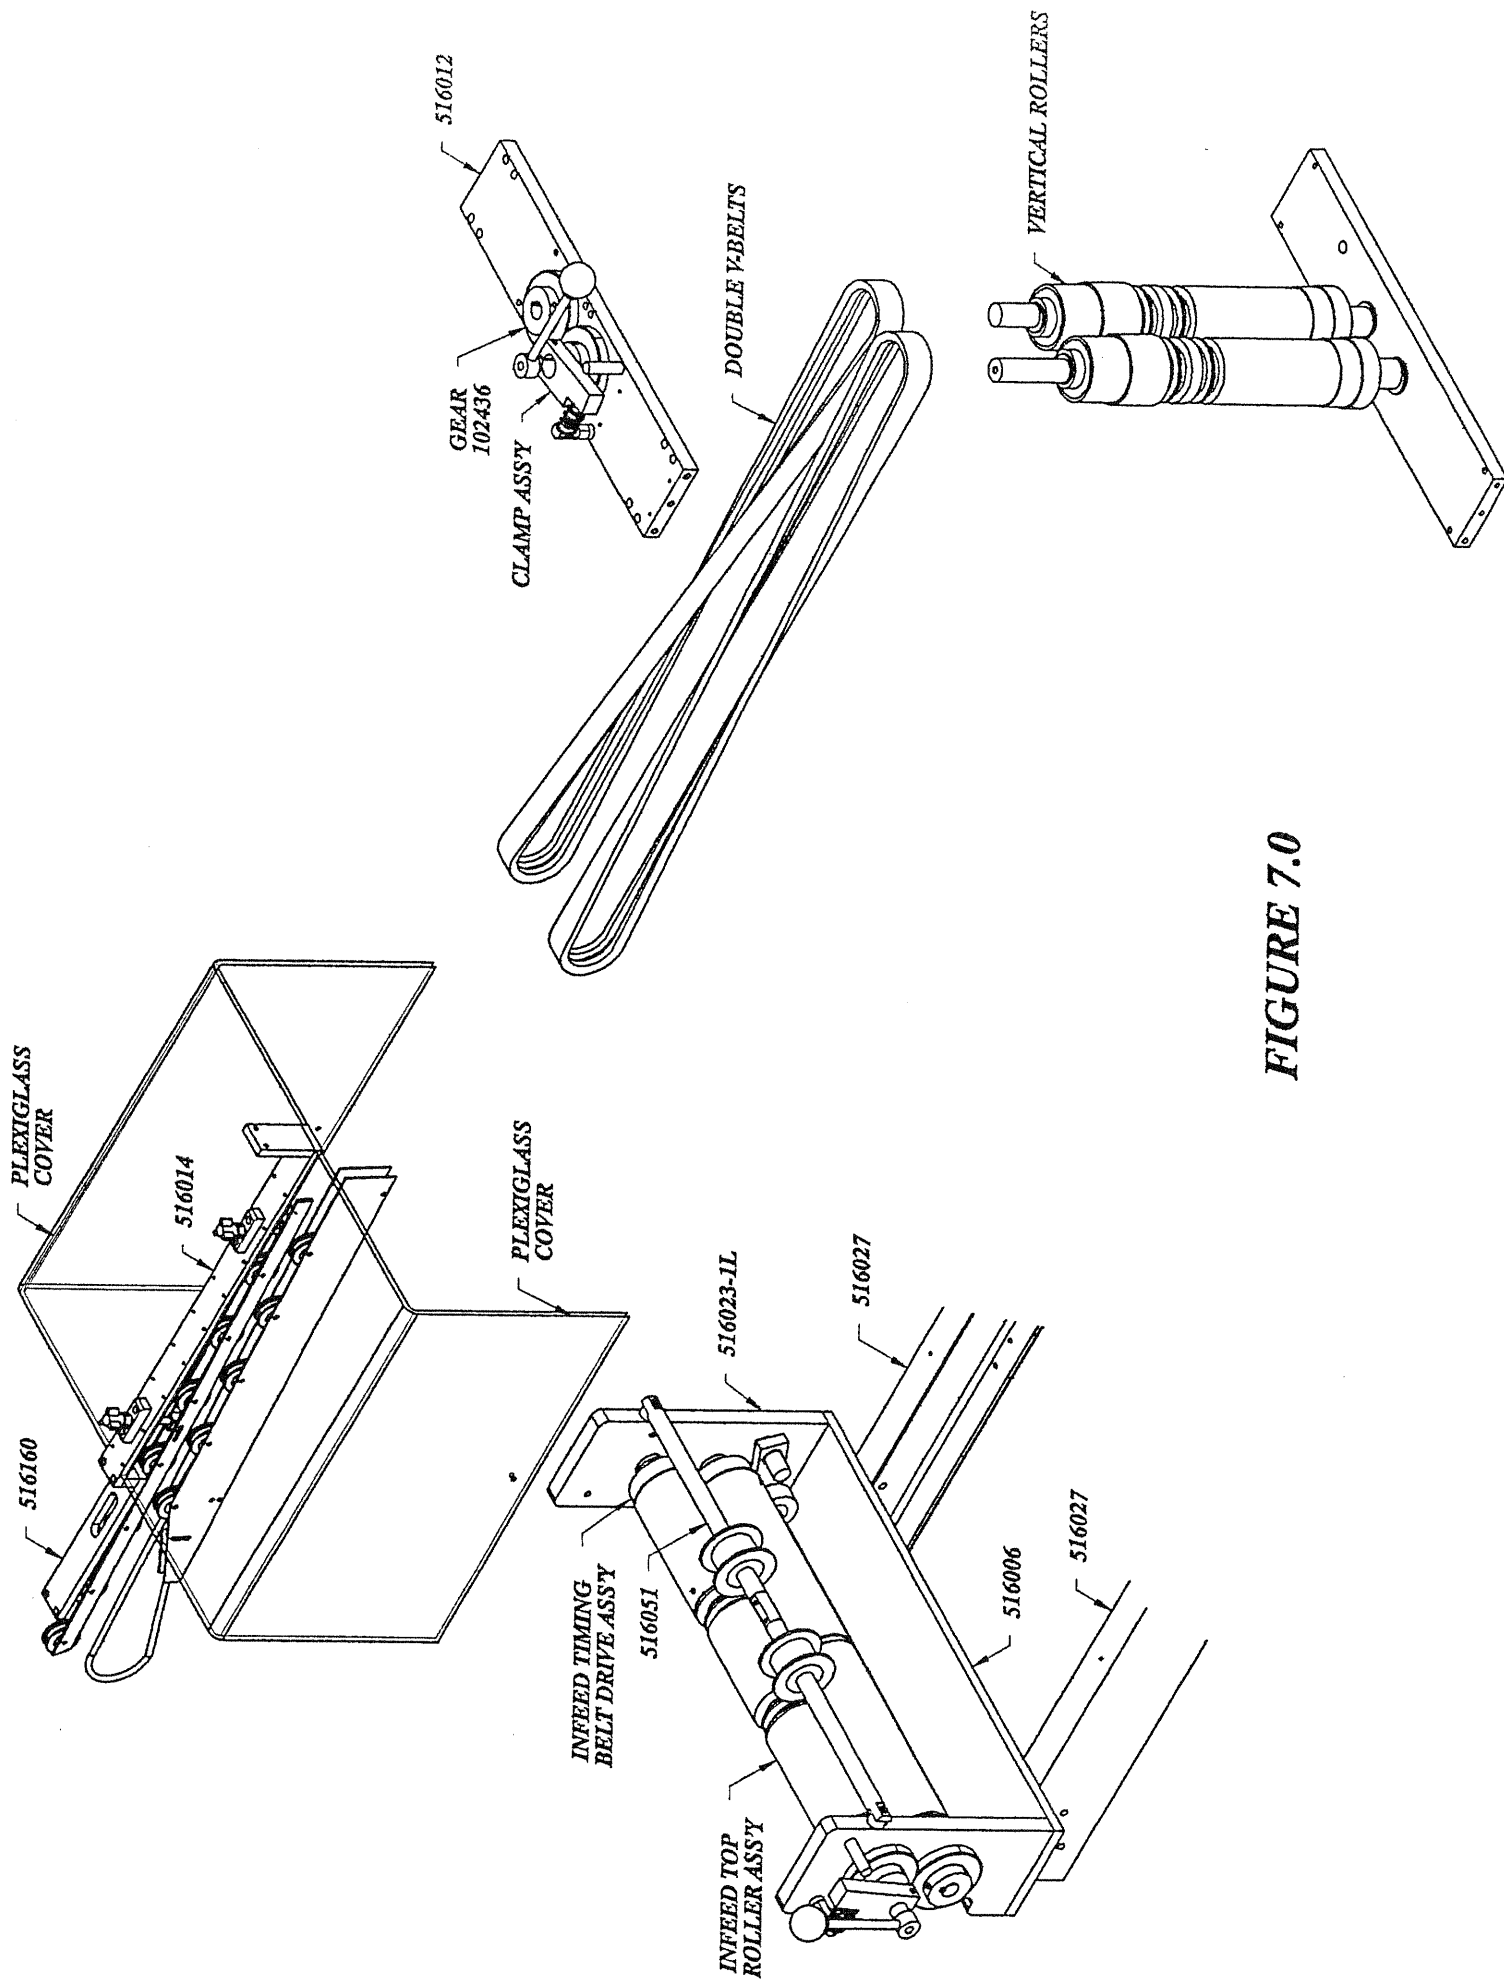

FIGURE 7.0
- 12.) Install vertical roller clamp assembly and rotate handle to swing rollers towards outfeed. Do not tighten clamp. See Figure 7.0
20.) Install double v-belt take-up shaft 516051. See Figure 7.0